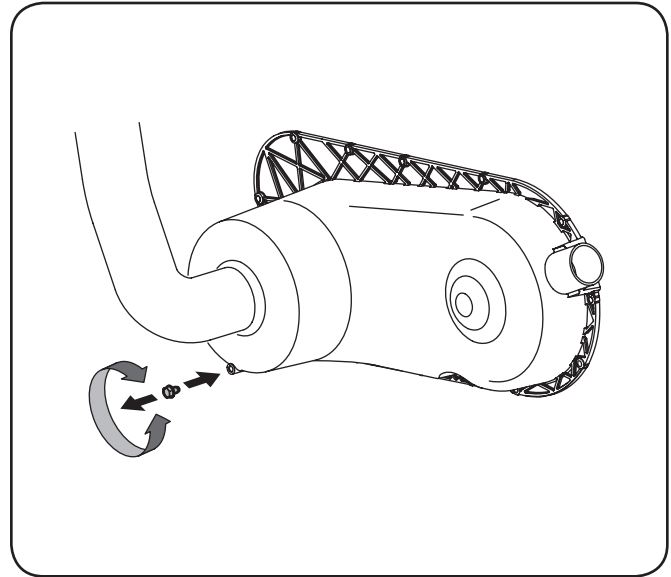

Figure 6-7
1. Remove CVT cover drain plug. See Fig. 6-7.